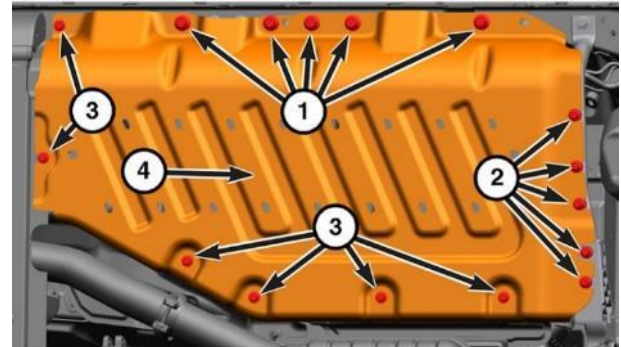

Figure 30 – Primary Battery Plate
3. Remove the bolts securing the PHEV primary battery skid plate to vehicle (Figure 30).
4. Remove the PHEV primary battery skid plate from vehicle (Figure 30).